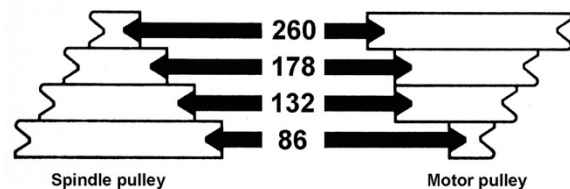

Figure 8-6
4. Turn screws (M) clockwise to push motor mount plate, relieving tension on belt.
5. Move belt to desired pulley combination. Refer to chart inside pulley cover (reproduced in Figure 8-6).